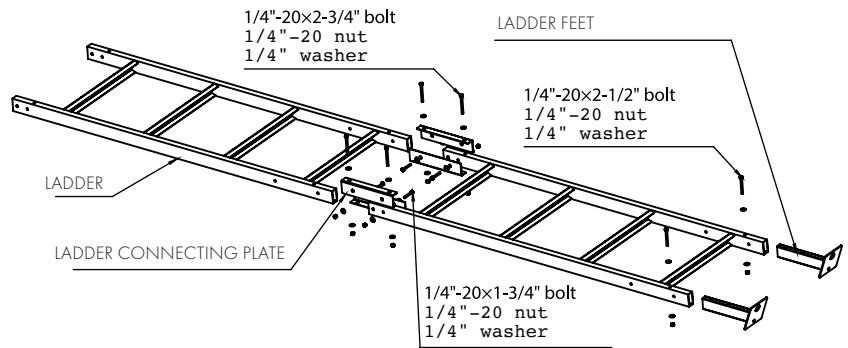

FIGURE 13
Attach the four **LADDER CONNECTING PLATES (#19)** and the two **LADDER FEET (#18)** to the two **LADDER (#17)** pieces by using (4) 1/4"-20 x 2-3/4" bolts, (4) 1/4"-20 x 1-3/4" bolts, (2) 1/4"-20 x 2-1/2" bolts, (10) 1/4" lock nuts and (20) 1/4" flat washers (Figure 13). **Be sure to not over tighten.**